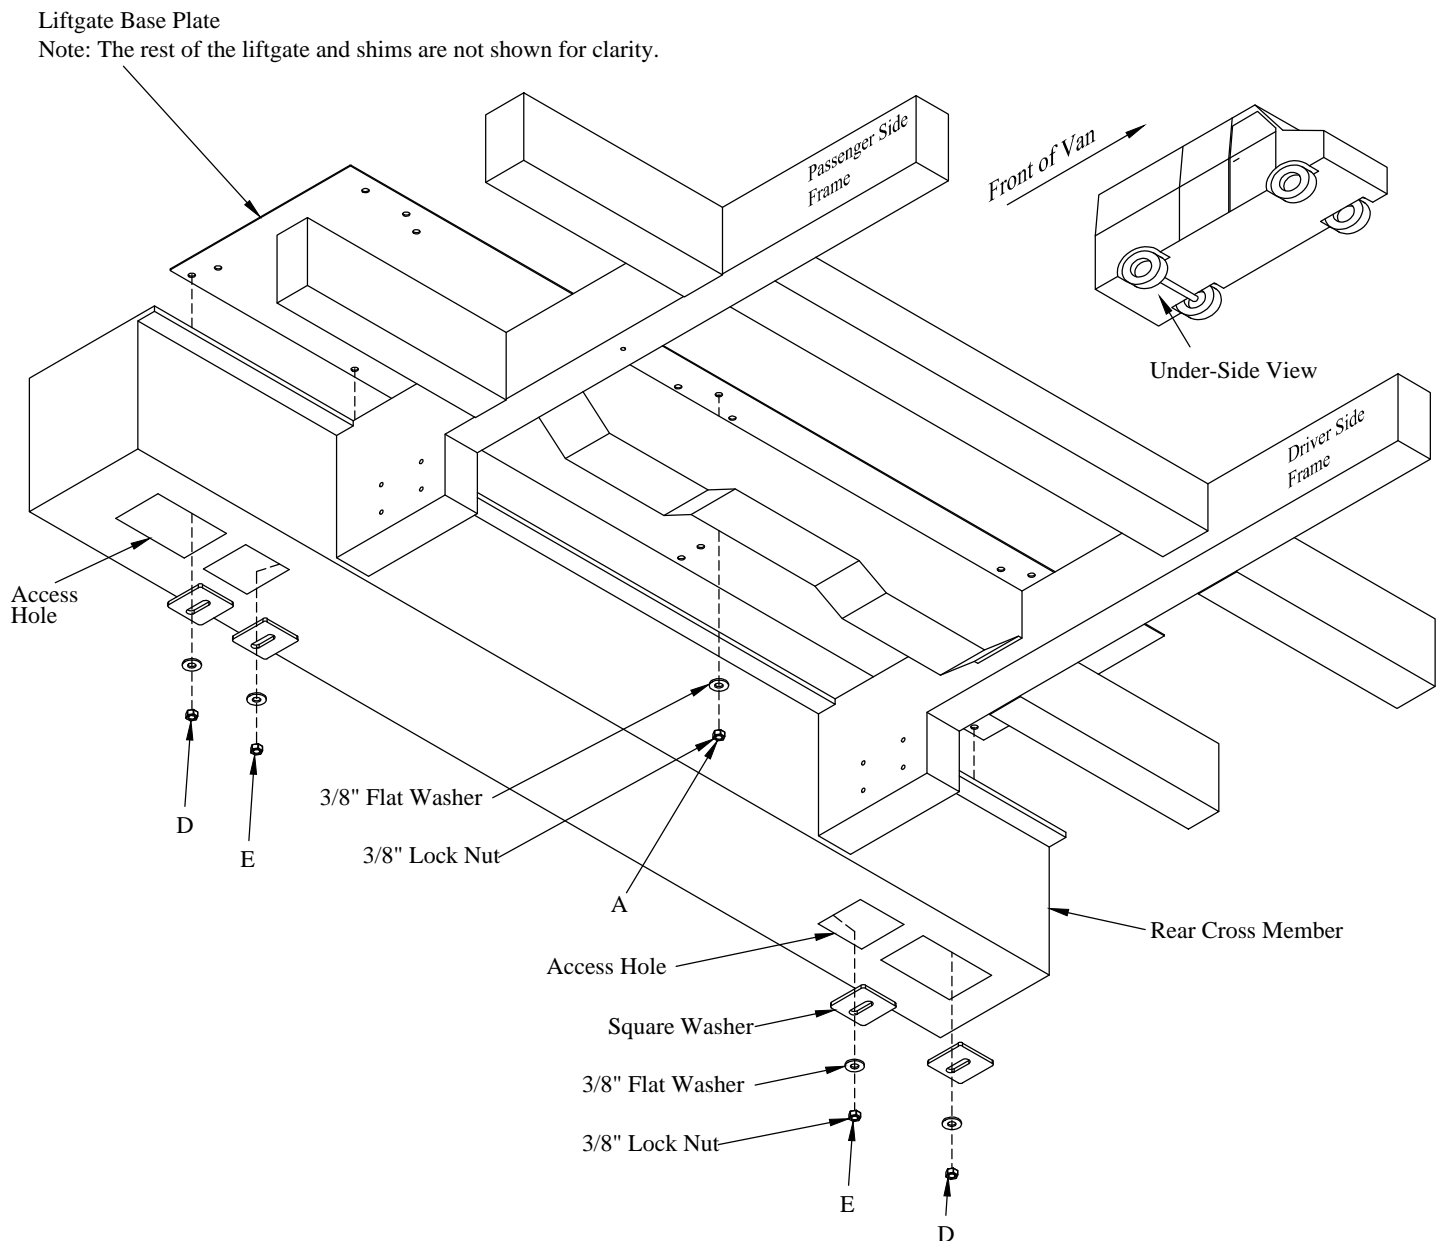
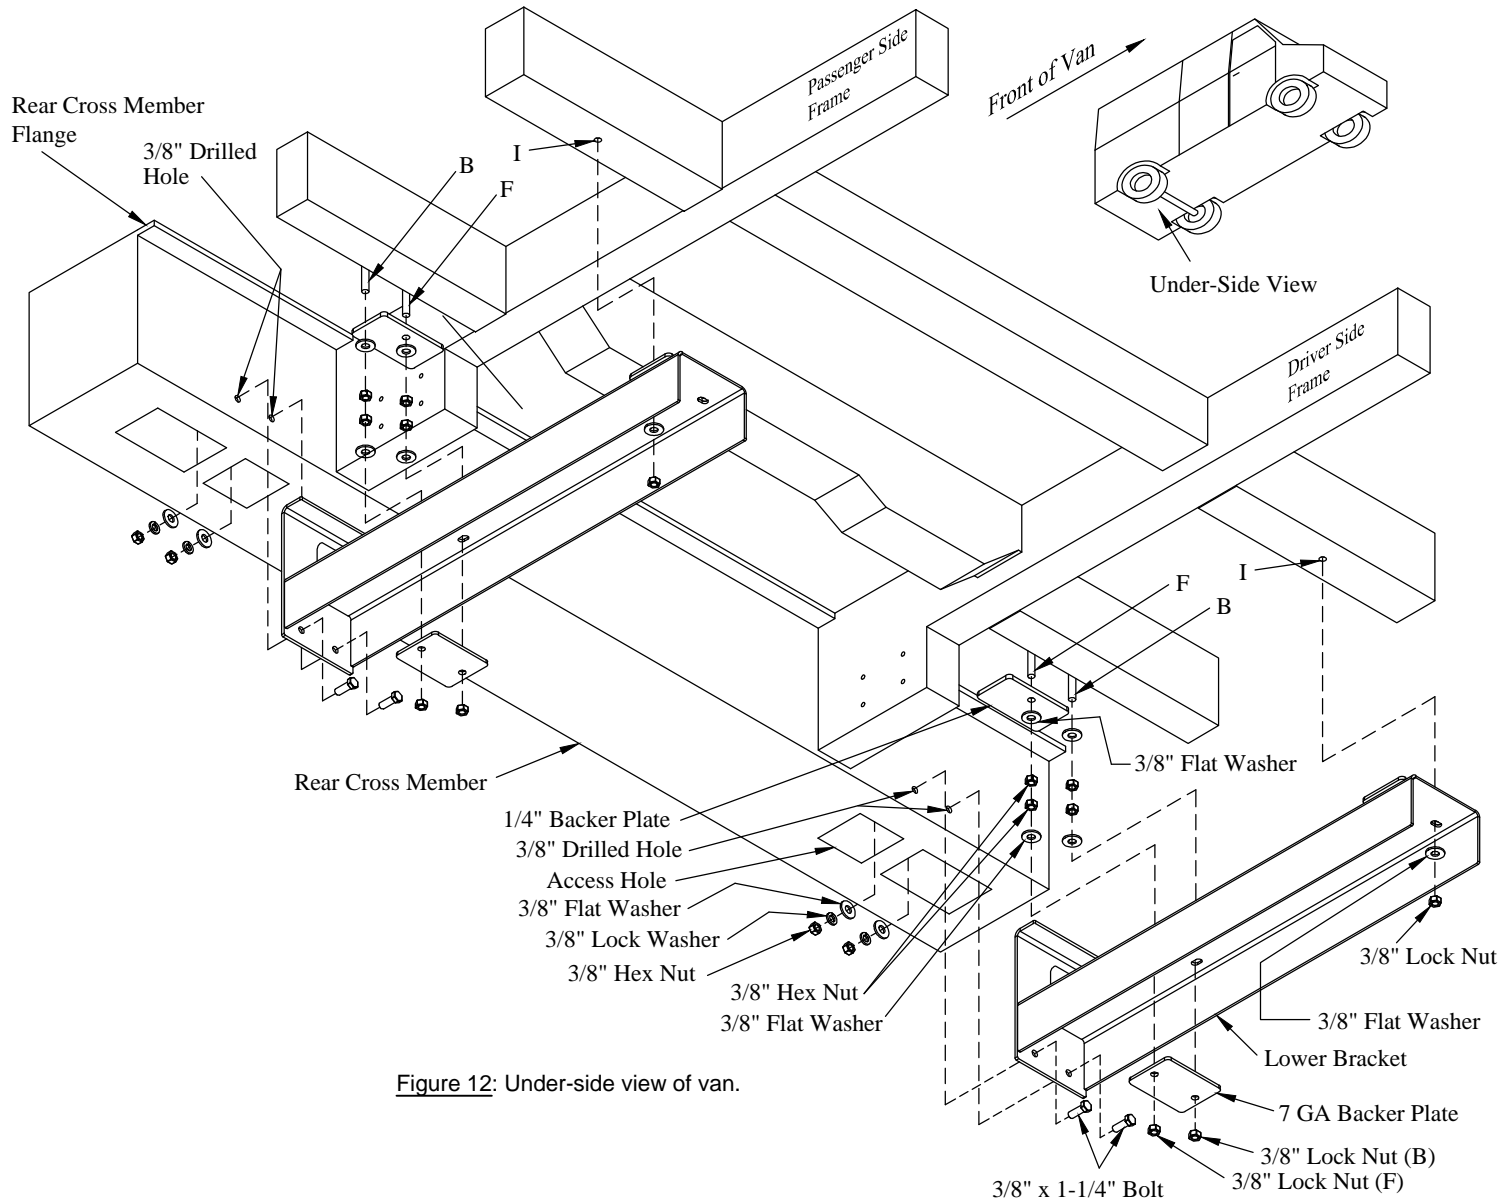

Figure 11: Under-side view of van.
Figure 12: Under-side view of van.
4. **Insert** base plate bolts into holes in base plate, down through van floor (Figure 11 and Figure 12).
5. **Install** square washer, 3/8" flat washers, and 3/8" lock nuts on each of the "D" and "E" location bolts (Figure 11). Do not tighten at this time.
6. **Install** a 3/8" flat washer, 3/8" lock washer, and 3/8" hex nut on the "A" location bolt (Figure 11). Do not tighten at this time.
7. **Install** the 1/4" backer plate onto the "F" location bolts (Figure 12).
8. **Secure** 1/4" backer plates with 3/8" flat washers and 3/8" hex nuts (Figure 12). Do not tighten at this time.
9. **Install** a 3/8" flat washer and 3/8" hex nut onto each "B" location bolt (Figure 12). Do not tighten at this time.
10. **Thread** a second 3/8" hex nut onto each "B" and "F" location bolts (Figure 12). Do not tighten at this time.
11. **Insert** a 3/8" flat washer, mounting bracket, and 7 GA backer plate onto the "B" and "F" location bolts (Figure 12).
12. **Install** a 3/8" lock nut onto each of the "B" and "F" location bolts (Figure 12). Do not tighten at this time.
13. **Install** a 3/8" flat washer, 3/8" lock washer, and 3/8" hex nut onto each "I" location bolt (Figure 12). Do not tighten at this time.
16. **Drill** two (2) 3/8" holes through each mounting bracket into the rear cross member.
17. **Secure** the mounting bracket to the rear cross member with 3/8" x 1-1/4" bolts, 3/8 flat washers, 3/8" lock washers, and 3/8" hex nuts (Figure 12).
18. **Tighten** the "A", "D", "E", and "I" position nuts in an alternating pattern (Figure 11).